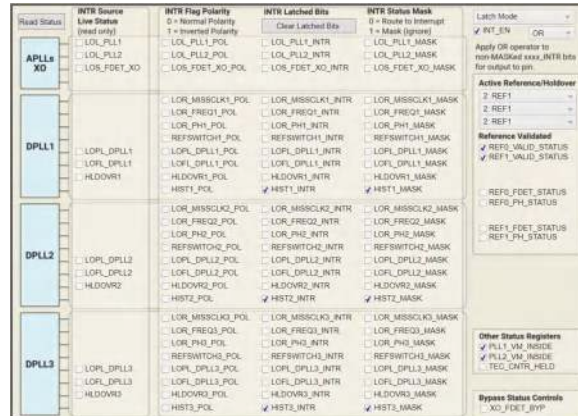

Figure 2-2. Read Status Bits
4. Check LMK5B33216 Status as shown in Figure 2-2.